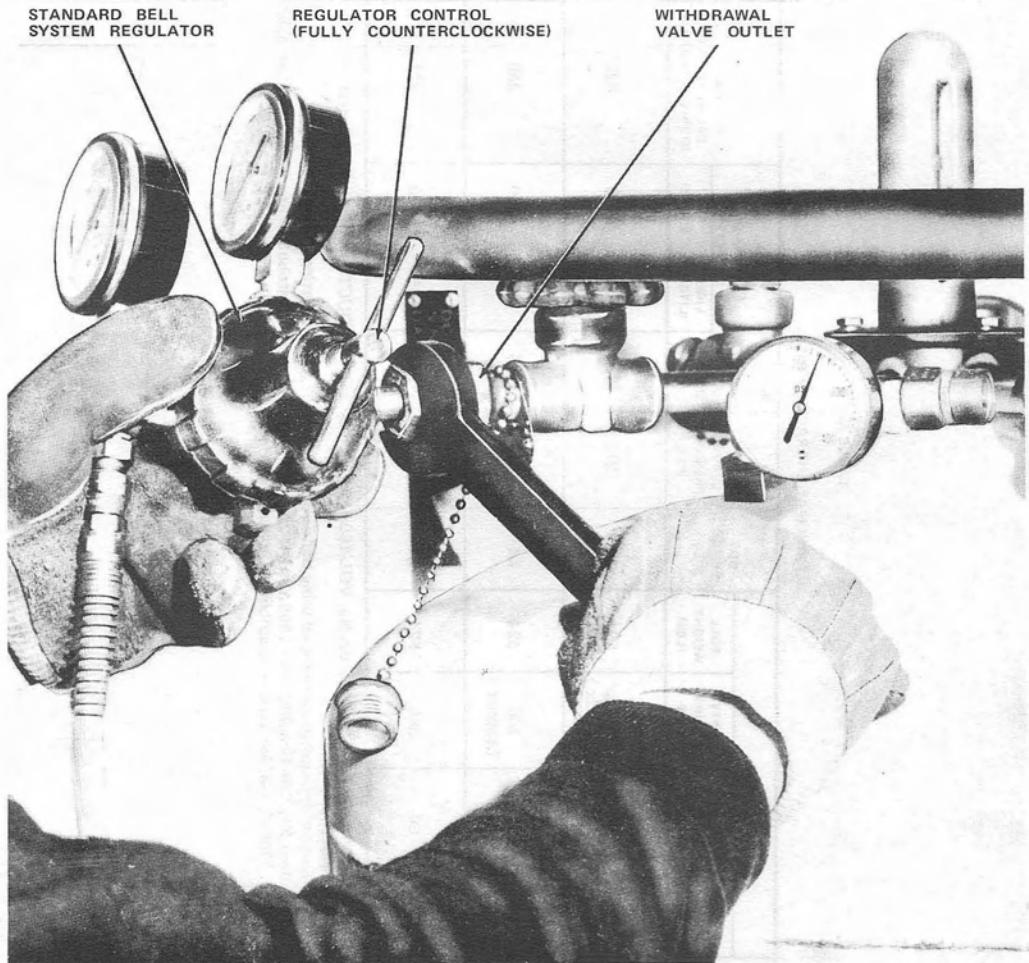

Fig. 8—Attaching Regulator to Withdrawal Valve Outlet
- (3) Attach **standard Bell System regulator** to **withdrawal valve outlet** (Fig. 8). Ensure that the regulator control is closed (fully counterclockwise).